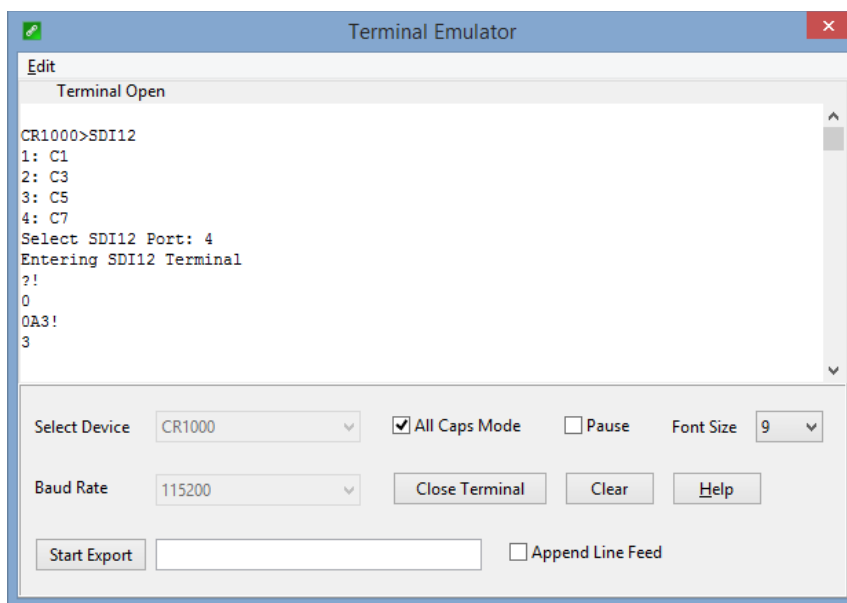

FIGURE D-2. CR1000 example of using the SDI-12 transparent mode to change the SDI-12 address from 0 to 3. Sensor is connected to control port 7.
6. To change the SDI-12 address, key in **aAb! <enter>**, where *a* is the current address from the above step and *b* is the new address (see FIGURE D-2). The CS215 will change its address and the datalogger will respond with the new address. To exit SDI-12 transparent mode, select the **Close Terminal** button.